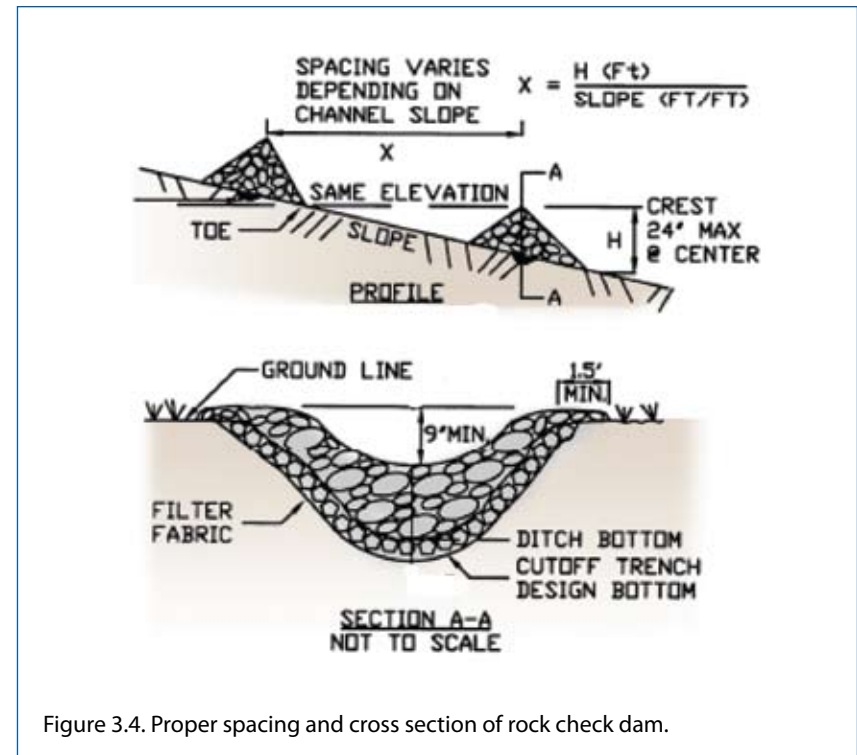

Figure 3.4. Proper spacing and cross section of rock check dam.
- Height of check dam less than 2 feet. Center shall be 9 inches lower than sides at natural ground elevation (Figure 3.4). Side slopes shall be 2:1 or flatter. Be sure to tie into banks.